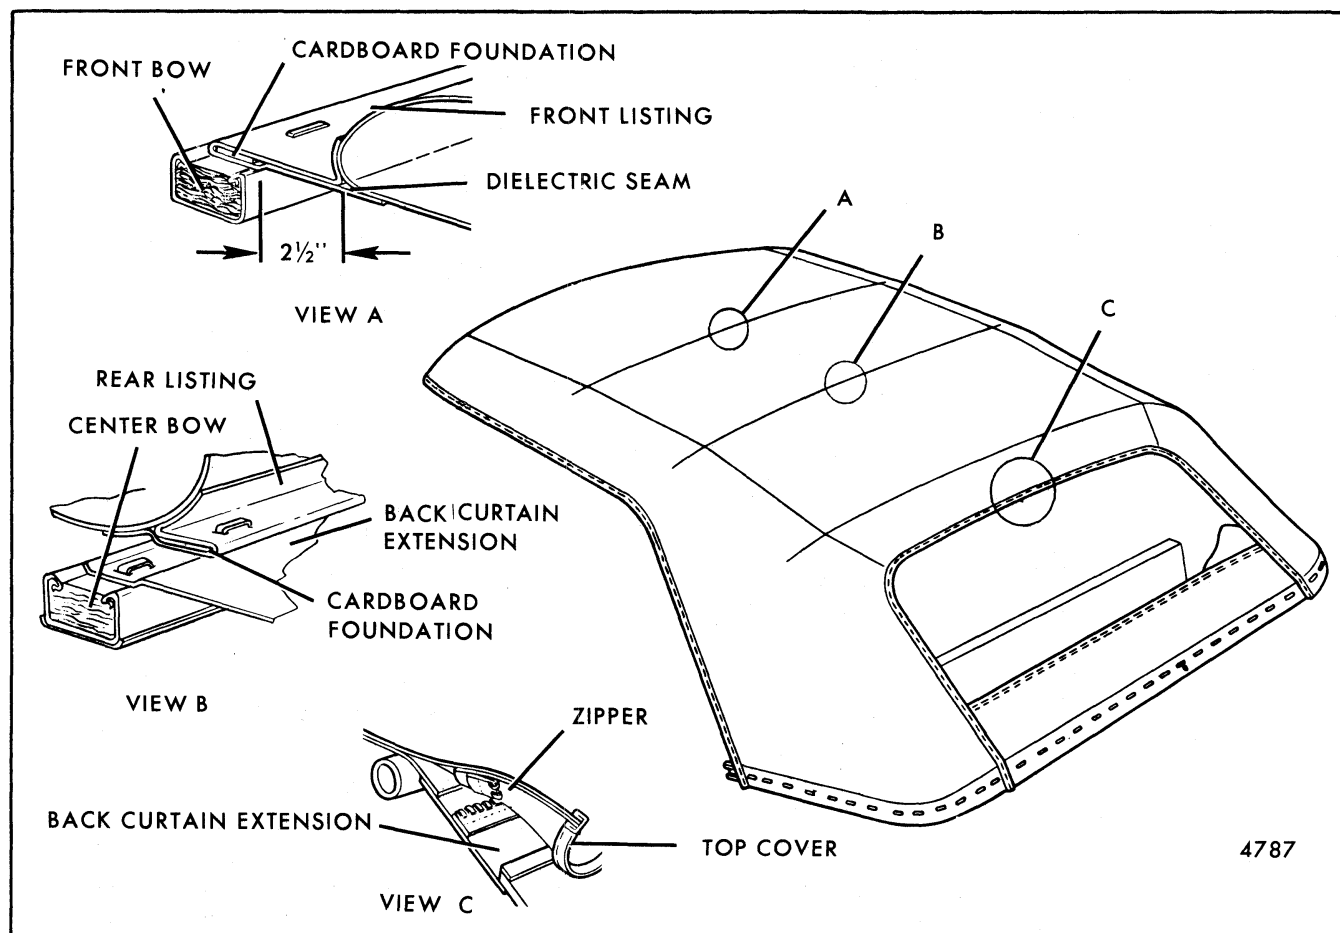

Fig. 8-92-Top Cover Attachment at Front and Center Roof Bows
11. Turn front of top cover rearward for access to front listing. Detach front listing from front roof bow (View "A", Fig. 8-92).
12. Unzip top cover from back curtain (View "C", Fig. 8-92).
13. Turn rear of top cover forward for access to rear listing. Detach rear listing from center bow (View "B", Fig. 8-92) and remove top cover.
top cover, or install replacement foundations in front and center bow listing pockets as shown (View "A" and "B", Fig. 8-92).
7. Position center of top cover rear listing on center bow and staple or tack in place. Space fasteners about two inches apart (View "B", Fig. 8-92).
8. Zip top cover to back curtain (View "C", Fig. 8-92).
13. Secure top cover front listing to front roof bow as follows (Fig. 8-92):
- c. Secure listing in place with staples or tacks spaced about two (2) inches apart. Distance from end of foundation to center of dielectric seam should be about 2-1/2 inches as shown in View "A", Figure 8-92.
11. Unzip top cover from back cover (View "C", Fig. 8-92).